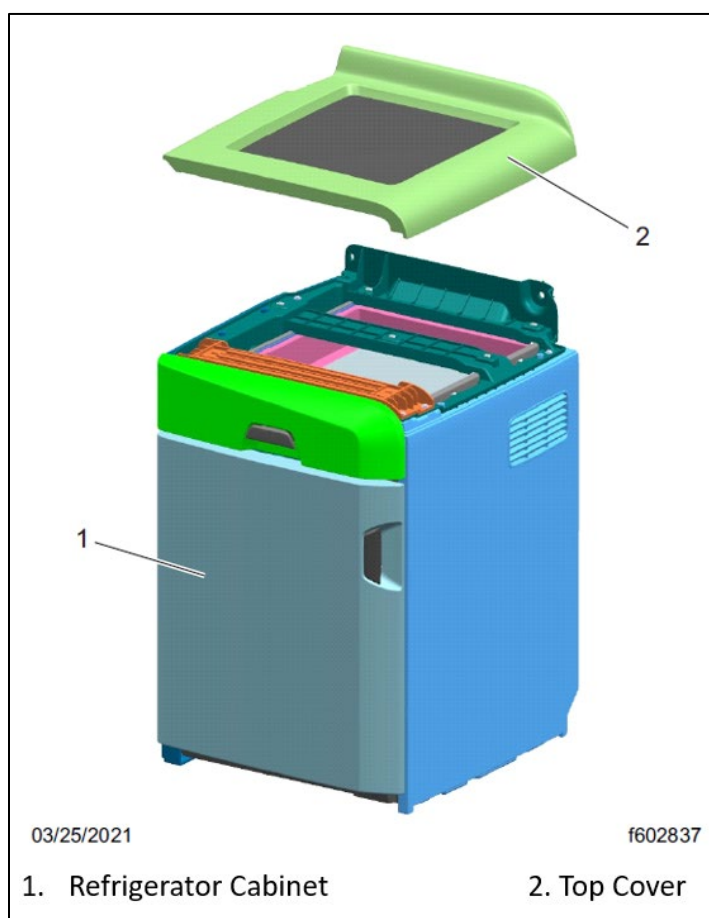

Fig. 35, Refrigerator Cabinet Top Cover
2.2. Remove the refrigerator cabinet top cover. See Fig. 35.